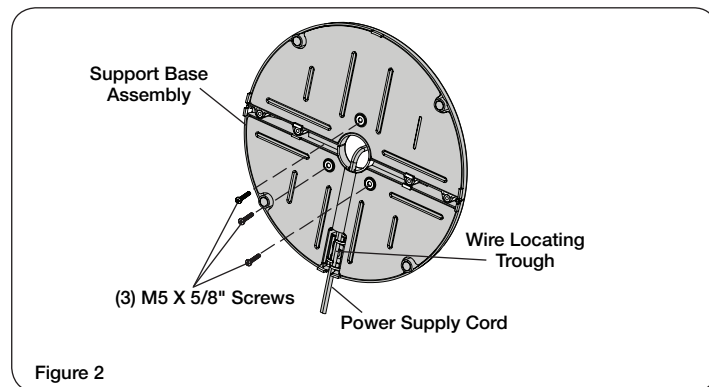

Figure 2
3. Secure (3) M5 X 5/8" Screws into the three outer holes in the bottom of the Base. (Figure 2)